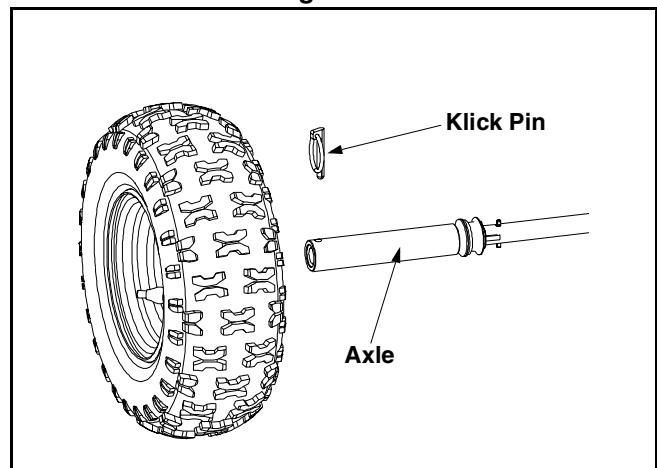

Figure 12
- Oil or spray lubricant into bearings at least once a season. Pull the klick pins and remove wheels, clean and coat axles with a multipurpose automotive grease. See Figure 12.